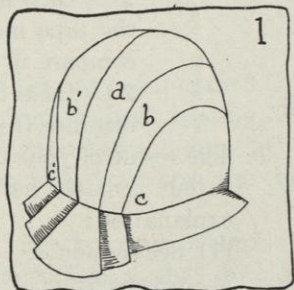

FIG. 1.
4. Make a crown that is shirred right up to the center, with a plain side crown like the one shown in Figure 1 C.
a. Fit and sew the side crown, for a crown like Figure 1 C, page 184.
(1) Read and follow all of Section 2 of Job 42 (page 170), but do not stretch bias at all, otherwise you will not have any fullness left to shirr later on.
b. Shirr side crown, as described in Section 2 d, (1) through (7), pages 185 and 186. You will probably want four or five rows of shirrings.
5. Make a shirred crown from tip to headsize like the one shown in Figure 1 *D* (page 184).
1. Look at Figure 1 *A*, *B*, *C*, and *D* (page 184) and tell which one you would like best for a baby's bonnet if using georgette. Give your reason for your answer.
The pattern for a crown of the type shown in Figure 1 is difficult to obtain merely by measurements, therefore it is best to make such a pattern directly over a crown. Copying patterns from a crown or making them over a crown is a great aid in training yourself to measure accurately, not only with a tape measure, but by eye measurement. Both are essential, if you want to become a good milliner. If you have no finished hat with the desired crown from which you might copy your pattern, it is always easy to steam a two-piece foundation crown, as shown in Job 43 (page 174); then draw the design of any sections desired, on the crinoline foundation, from which you may obtain a pattern (see Section 4, page 194). These methods are so similar that they will be given in one lesson. Carefully applying these principles will help you either to copy or to design a pattern for any kind of a sectional crown.
- b. The result of your measurements will tell you how many sections to cut alike and whether to cut the two halves of each section alike. See Figure 1, page 191, for the following explanation:
- (1) See section *a*. There is only one section like it, and each quarter is like the other (only reversed).
- (2) Sections *b* and *b'* are exactly alike and the left half is like the right half.
- (3) Sections *c* and *c'* are exactly alike and the left half is like the right half.
- 2. Cut temporary crinoline patterns of sections *a*, *b*, *c* in a crown like Figure 1 (page 191).**